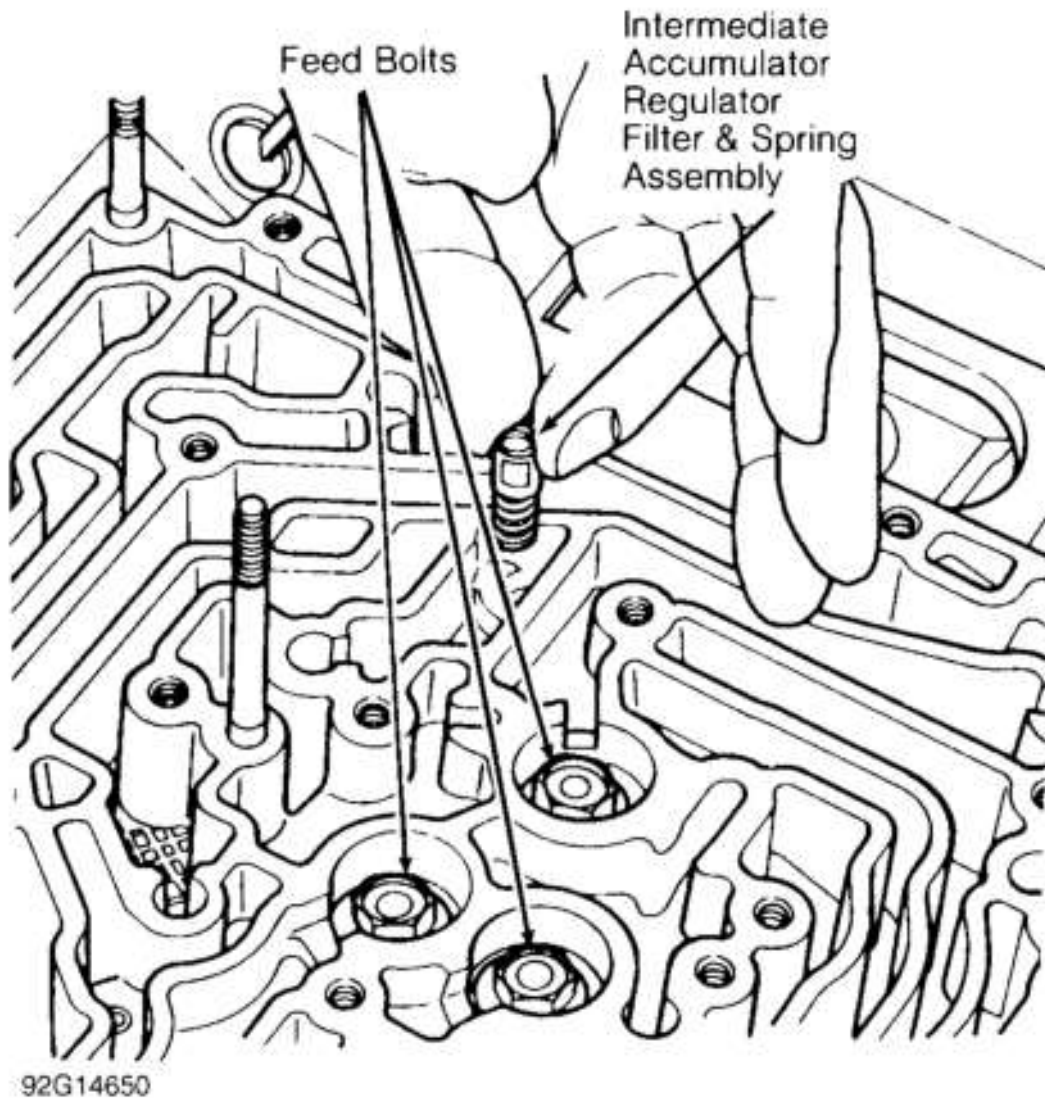

Fig. 5: Removing Intermediate Accumulator Regulator Assembly
4. Remove intermediate accumulator regulator filter and spring. See **Fig. 5**. Remove servo snap ring, retaining plate, servo piston and rod assembly, and servo spring.